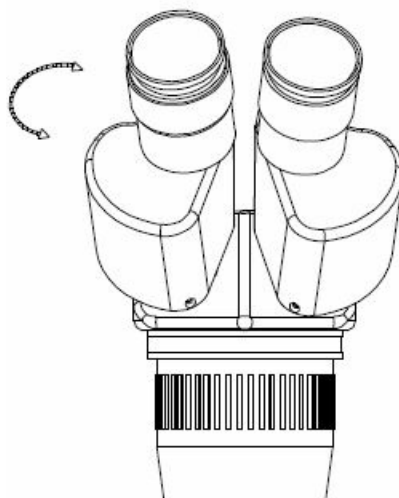

Figure 4
1. Adjust the two eyepieces along the direction of the arrow shown in Figure 4 until eyepiece feels comfortable and a single image is seen.